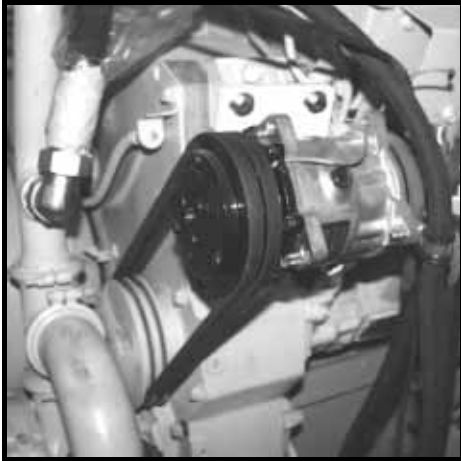

Fig. 44
- Check the V-belts of the compressor (Fig. 44) for correct tension and good condition.